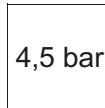

Fig.1
Hako nameplate (Fig. 1/1)
Machine identification number (Fig. 1/2)
Soiled water drain hose (Fig. 1/3)
- A = Read and observe the instruction manual (Fig. 1/2)
- B = Maximum inclination of 2 % (Fig. 1/2)
- C = Do not clean the machine by means of high-pressure cleaning equipment (Fig. 1/2)
Inflation pressure (Fig. 1/4)